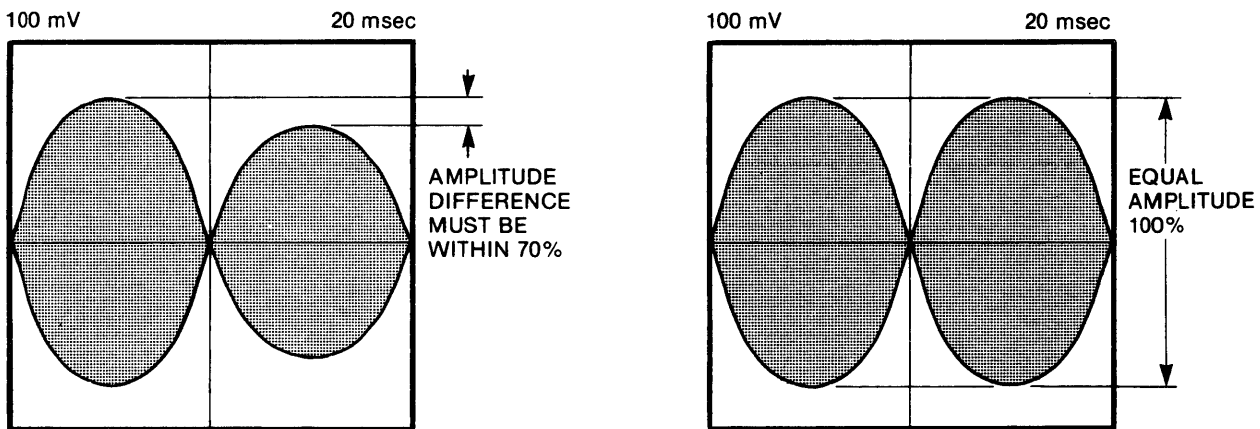

FIGURE 5-6. ALIGNMENT LOBES
- Amplitude of two lobes must be within 70% of each other (80% for 465). If lobes do not fall within specification, continue on with procedure (see figure 5-6).